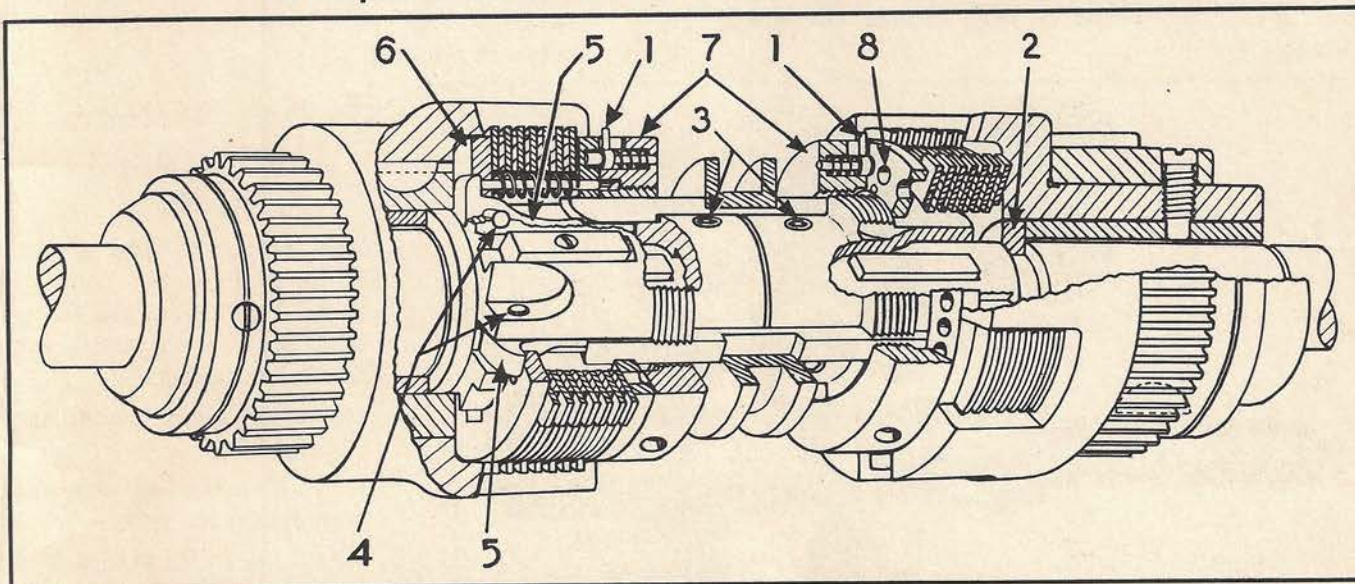

Fig. 13. The "Twin Disc" Clutch
To Take "Twin Disc" Clutches Apart, Fig. 13
1. Release clutch adjustments (1) on both sides.
3. Remove split collar (2) Fig. 13, from right-hand end of shaft.
4. Loosen screws (3) Fig. 13, and pull off entire clutch.
5. Compress plate unit to expose finger lever pins (4). Drive out finger lever pins (4) and remove fingers (5). The floating plates (6) and clutch plates can then be removed.